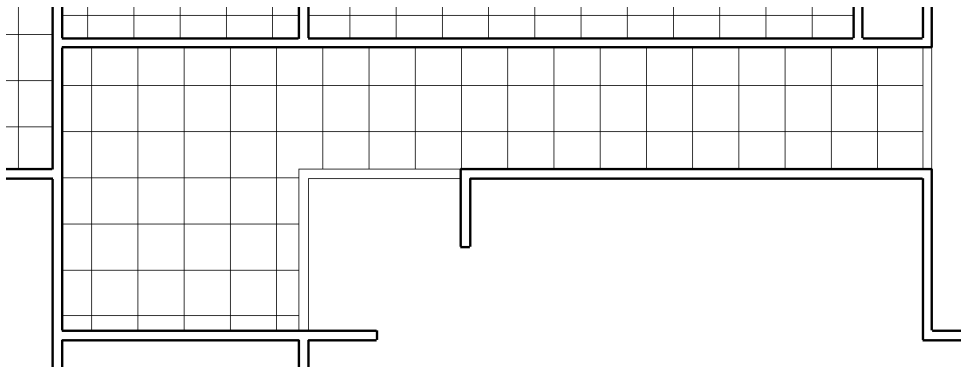

Figure 7-4.14 Hallway ceiling placed
34. Reposition the grid as shown in Figure 7-4.14.